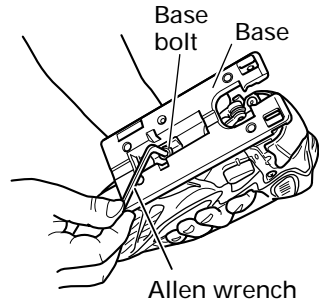

Fig. 10
- (1) Loosen the base bolt allen wrench attached on base. (Fig. 10)
NOTE: To ensure accurate cutting when using the Guide (Fig. 10), always set the orbital position to "0".
- (1) Loosen the base bolt by allen wrench attached on base and move the base fully forward. (Fig. 10, 11)
- (3) Tighten the M5 bolt again. (Fig. 10)
- (4) Set the orbital position to "0".
- (1) Remove the allen wrench from the base.
- (2) Move the base fully forward. (Fig. 10, 11)
- (3) Attach the chip cover.